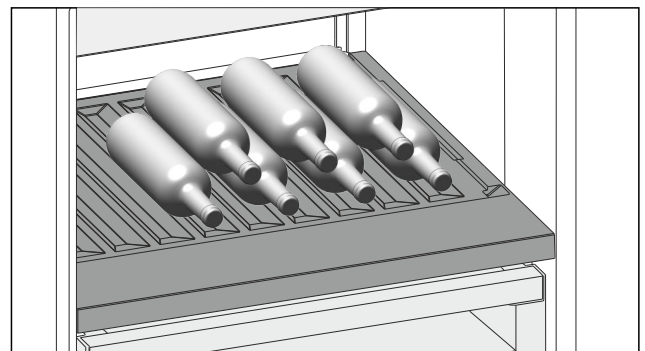

Fig. 135 Example illustration
- Insert the bottles facing backwards towards the rear wall. (see Fig. 135)